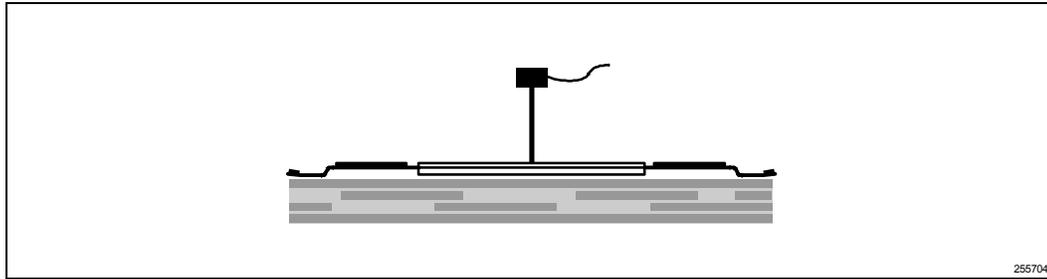

Figure 20. Technique for Measuring Case Temperature ( $T_c$ )
- The thermocouple should be attached at a 90° angle as shown in Figure 20.